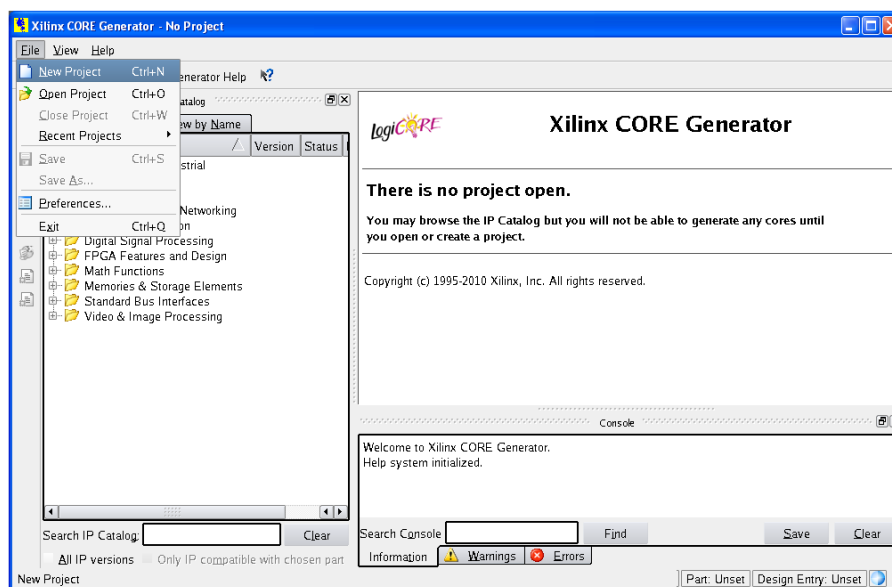

Figure 3-2: Starting a New Project
3. Choose **File > New Project** (Figure 3-2).